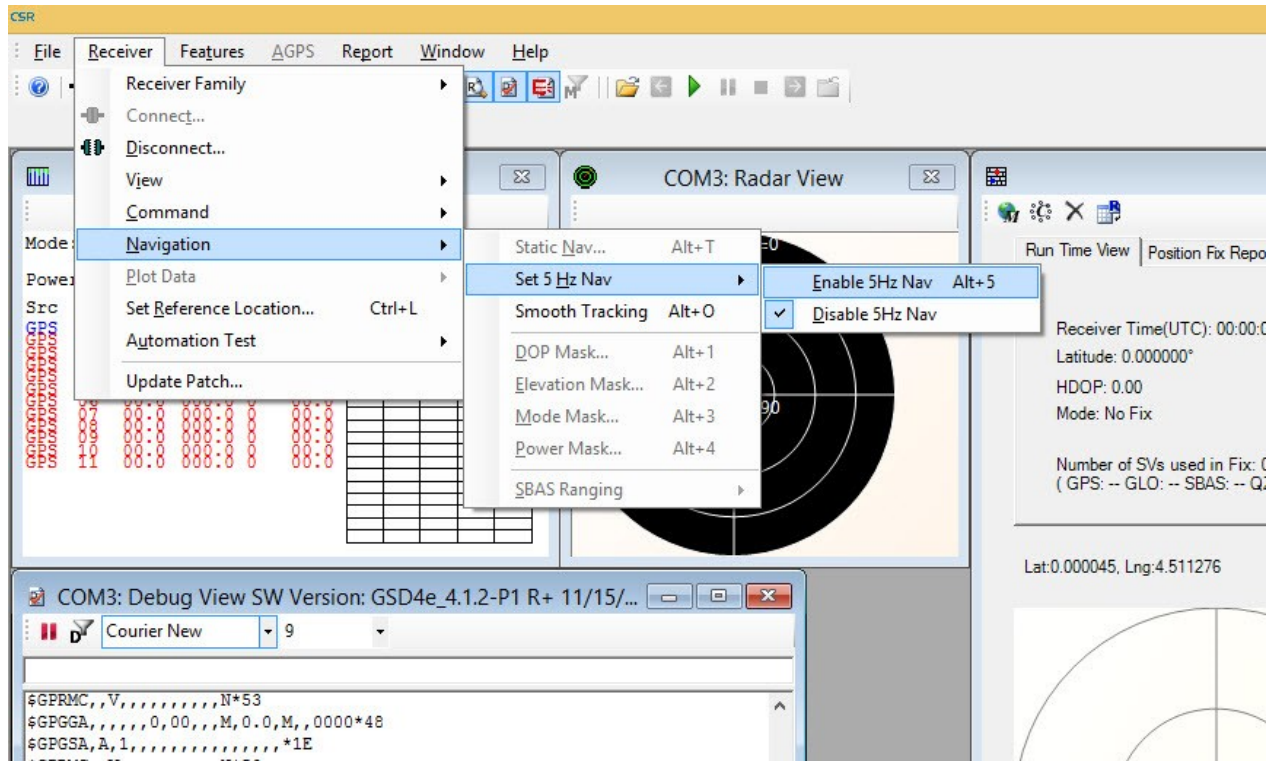

Figure 4 – Switching Navigation Settings – 5 Hz
1. Click on the top menu on "Receiver" -> Navigation -> Set 5 Hz Nav -> Enable 5Hz Nav (see Figure 4).